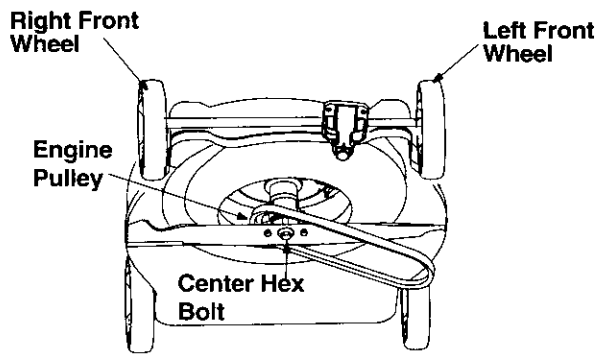

Figure 18
- Remove the belt from the engine pulley and around the blade. See Figure 18.